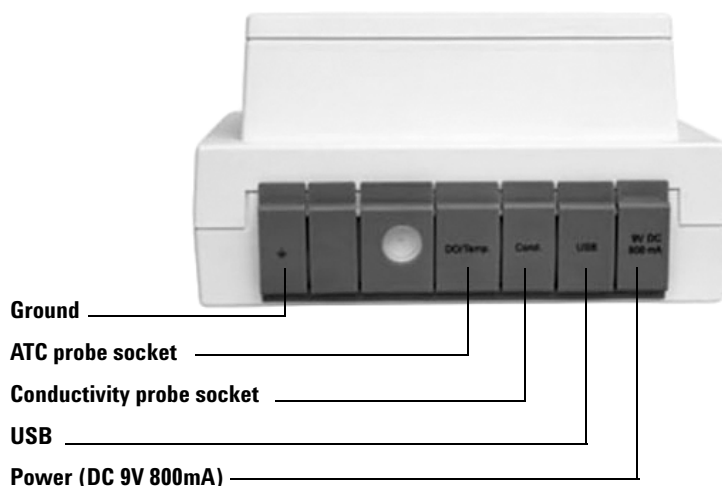

Figure 3 The back view of the 3200C Conductivity Meter
- 4 Locate the conductivity and ATC probe sockets on the back of the meter. Plug the C5111 conductivity probe (5190-3994) connector and ATC probe (5190-3998) connector into the sockets on the rear of the meter. See Figure 3.
- 3 Connect the power adapter cord to the power socket on the back of the meter. See Figure 3 on page 11.